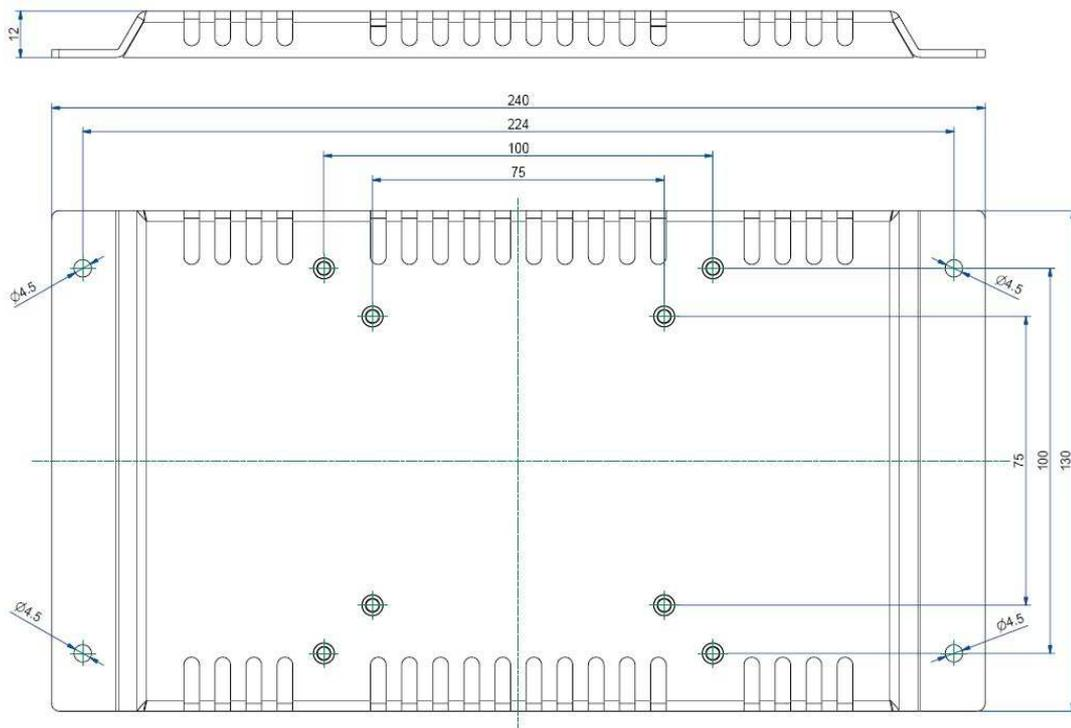

Fig. 31: Rear and bottom view of the mounting plate VESA® 75/100 for M@CIIA104/121/150)
- M@CIIA 104/121/150 is VESA® 75/100 compliant (refer to Fig. 31).